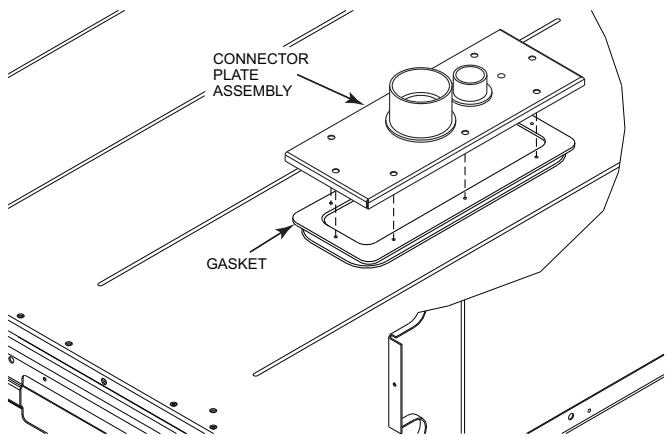

Fig. 44 — Installing Thru-the-Base Option
3. Place the gasket over the embossed area in the basepan, aligning the holes in the gasket to the holes in the basepan. See Fig. 44.